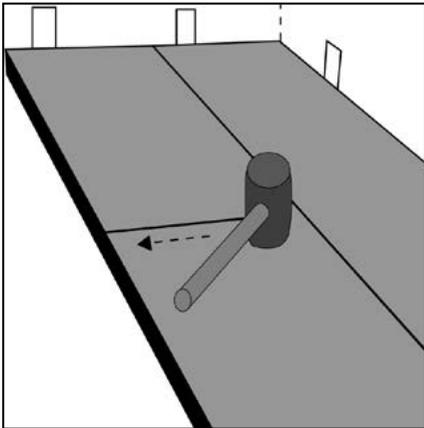

Figure 23 Ensure joints are fully engaged
- ▶ Using the rubber mallet gently tap down the short joints along the short end just installed (fig. 23). If they don't re apply pressure until this is achieved.